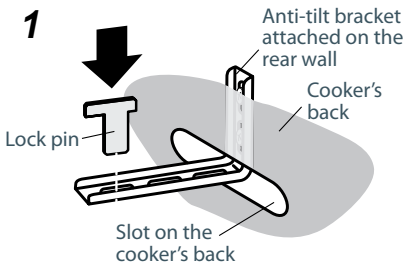

Fig. 6c Fitting the lock pin through the bracket
- Fit the lock pin through the bracket, as shown (Fig.6c).